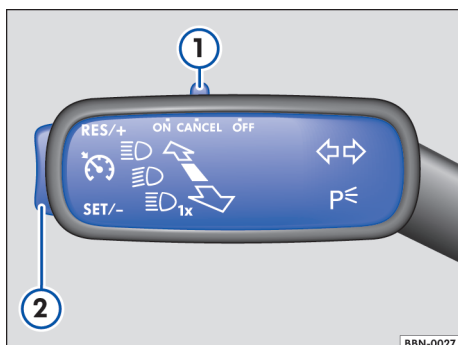

Fig. 92 Left side of the steering column: GRA operation buttons
- Push switch → Fig. 92 ① into position **ON**.